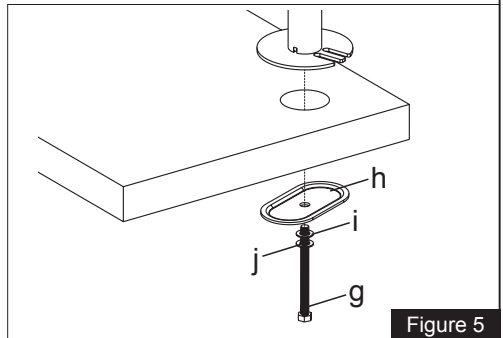

Figure 5
3. Position the Pole(a) on the mounting surface and secure using the Support Plate (h), M10 Washer(i), Spring Washer(j) and M10 Bolt(g). Fasten the M10 Bolt using provided Wrench(n), see Figure 5.